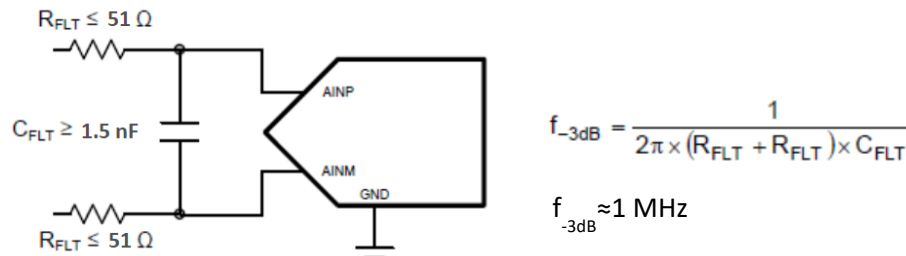

Figure 13: PGA Input Offset Filter
- Use anti-aliasing filters. Use differential filters in case of differential input. Choose small resistor values, see Figure 13